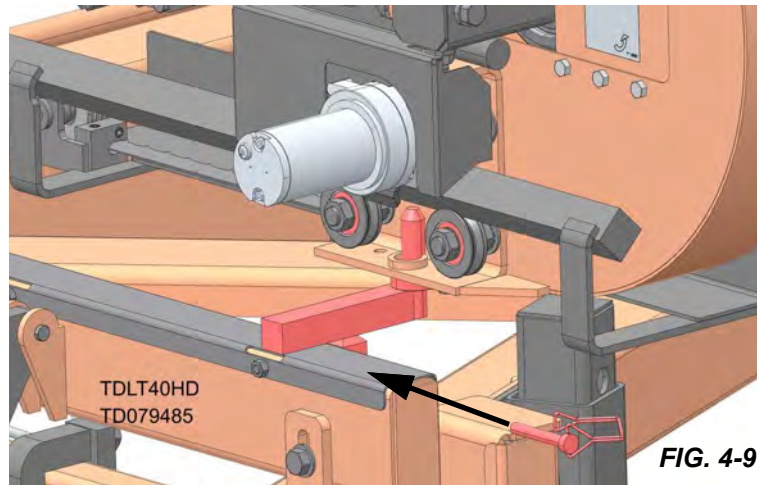

FIG. 4-9
10. Lower the saw head until it is seated firmly over the rest pin (shown in red on FIG.4-9).